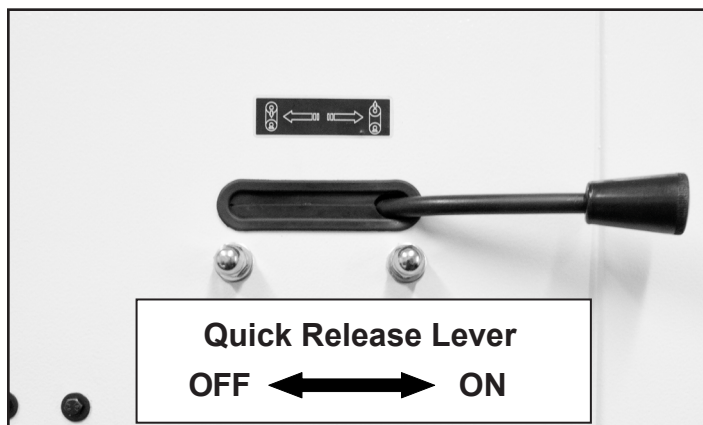

FIGURE 20
2. Release the blade tension by moving the quick release lever from right to left. Fig. 20.
7. Re-tension the new blade by moving the quick release lever back to the ON position, Fig. 20, and check the blade tracking. The blade should run in the center of the wheels. Refer to “Tracking the Saw Blade” on page 14 for more details.